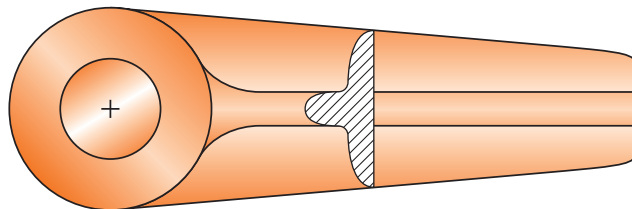

FIGURE 16.16
- Rotated section views may be used when the object has a uniform cross section with a shape that is difficult to visualize. In such cases, the cross section is rotated by 90° and is shown in the plane of view. An example of a rotated section is shown in Figure 16.16.